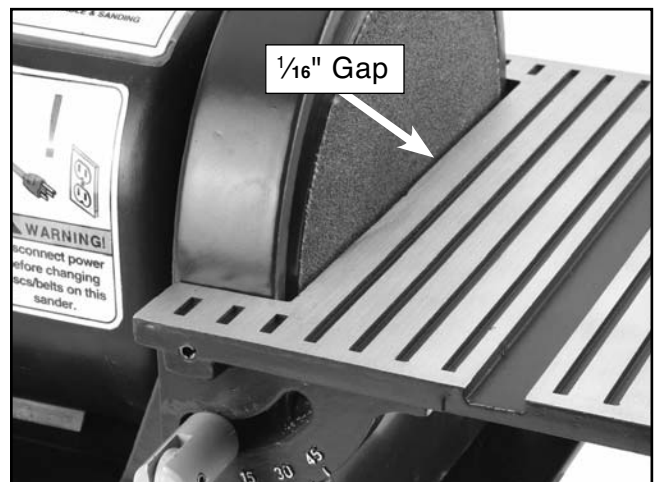

Figure 18. Sanding disc-to-table clearance.
6. Reinstall the disc guard, table, and dust chute as a complete assembly onto the sander so there is a 1/16" gap between the sandpaper and the table (see **Figure 18**), and install the two screws and the washers as shown in **Figure 15**.